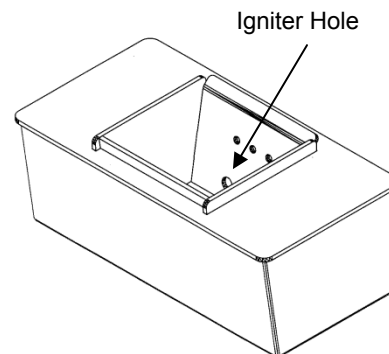

FIGURE 17
- Replace inner section into burnpot; make sure it is level and pushed all the way back down and that the igniter hole is to the rear when it is reinstalled (see Figure 17).